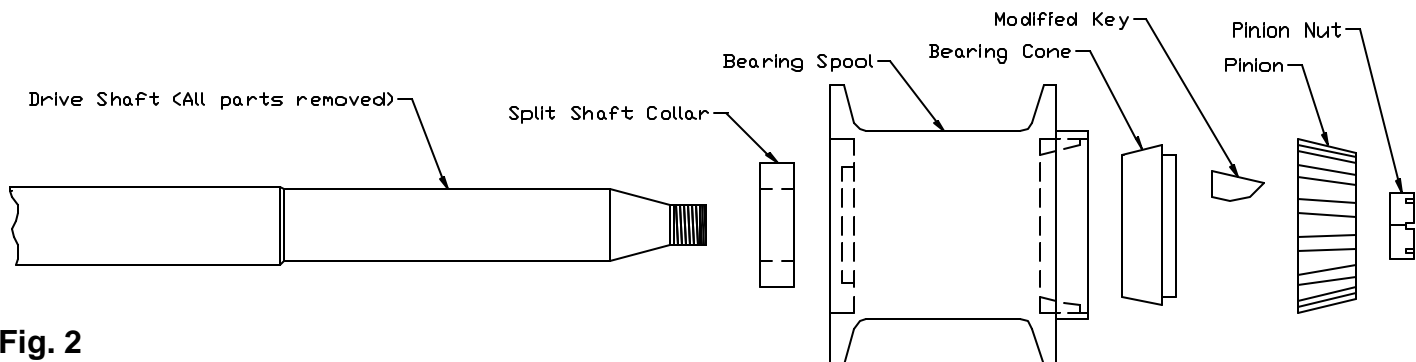

Fig. 2
1) Remove all items that are normally fastened to the threaded end of the drive shaft. You will **not need** the old thrust bearing assembly nor any part of the roller bearing or inner and outer sleeves. You **will need** the Woodruff key, nut, and pinion gear. Refer to Fig. 2.
3) Refer to Fig. 2 and carefully examine the tapered end of the shaft for burrs or scrapes that may prevent the new bearings from sliding into place along the shaft. Pay particular attention to the top of the keyway where it meets the taper. Next carefully examine the area where the taper meets the machined outer diameter of the drive shaft. If necessary, use a small file to remove any burrs or sharp edges.